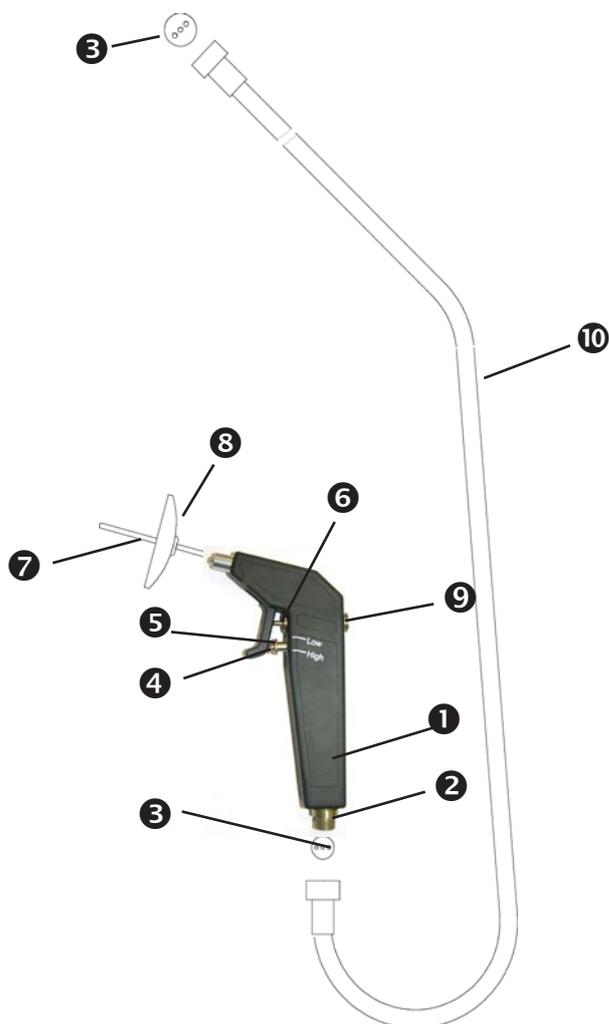

Fig. 4. Irrigation handle
- Insert a three-hole gasket (⑥, Fig. 4) in the double barrelled hose (⑩, Fig. 4) and screw it on the unit connection (②, Fig. 3).